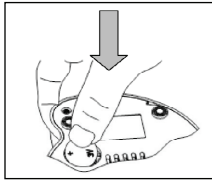

Fig. 2
2. To place the battery so that the positive terminal (+) is facing up, then snap the edge of the plastic tabs in and push until it is retained, Figure 2.